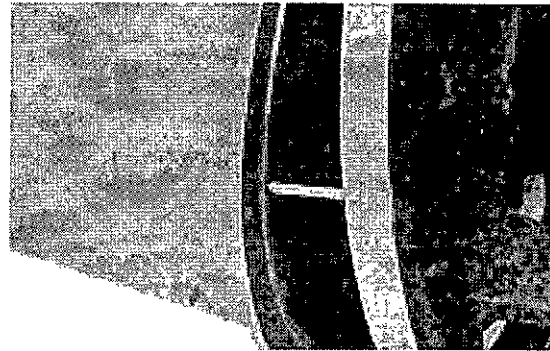

Figure 6-52
1. Install two guide pins (threaded rod can be used) into the generator side of the end bracket mounting holes. Align the guide pins with the holes in the generator frame and slide the bracket onto the frame. (Figure 6-52.) Install bracket mounting cap screws. (Figure 6-53.)